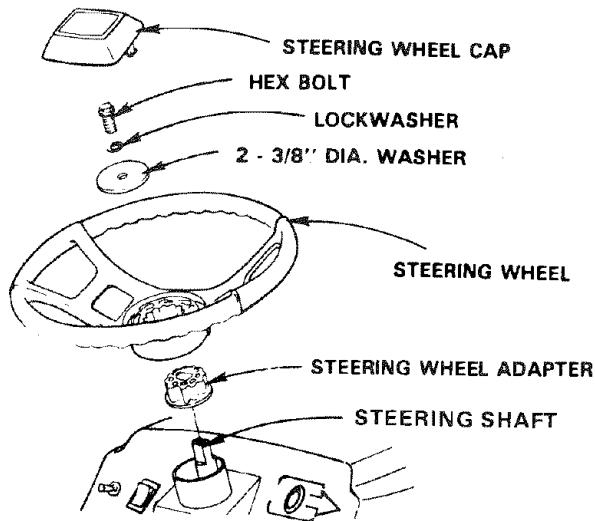

FIGURE 3
- a. Use a 9/16" wrench to remove hex bolt, lockwasher and 2-3/8" diameter washer (shown full size below) from steering shaft (Fig. 3)
- c. Secure steering wheel to steering shaft using hex bolt, lockwasher and 2-3/8" diameter washer (Fig. 3).